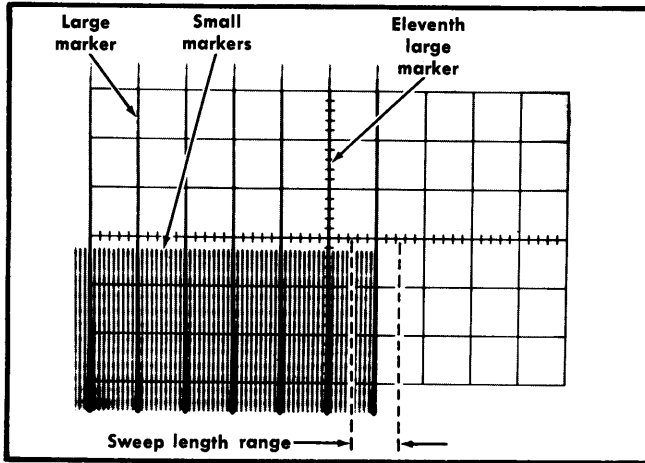

Fig. 5-34. Typical CRT display when checking A and B sweep length.
b. Move the eleventh large marker to the center vertical line with the horizontal POSITION control (see Fig. 5-34).
c. CHECK—B Sweep length must be between 10.5 and 11.5 divisions, as shown by 0.5 to 1.5 divisions of display to the right of the center vertical line (see Fig. 5-34). Large markers indicate divisions and small markers indicate 0.1 division.
c. Move the eleventh marker to the center vertical line with the horizontal POSITION control (see Fig. 5-34).